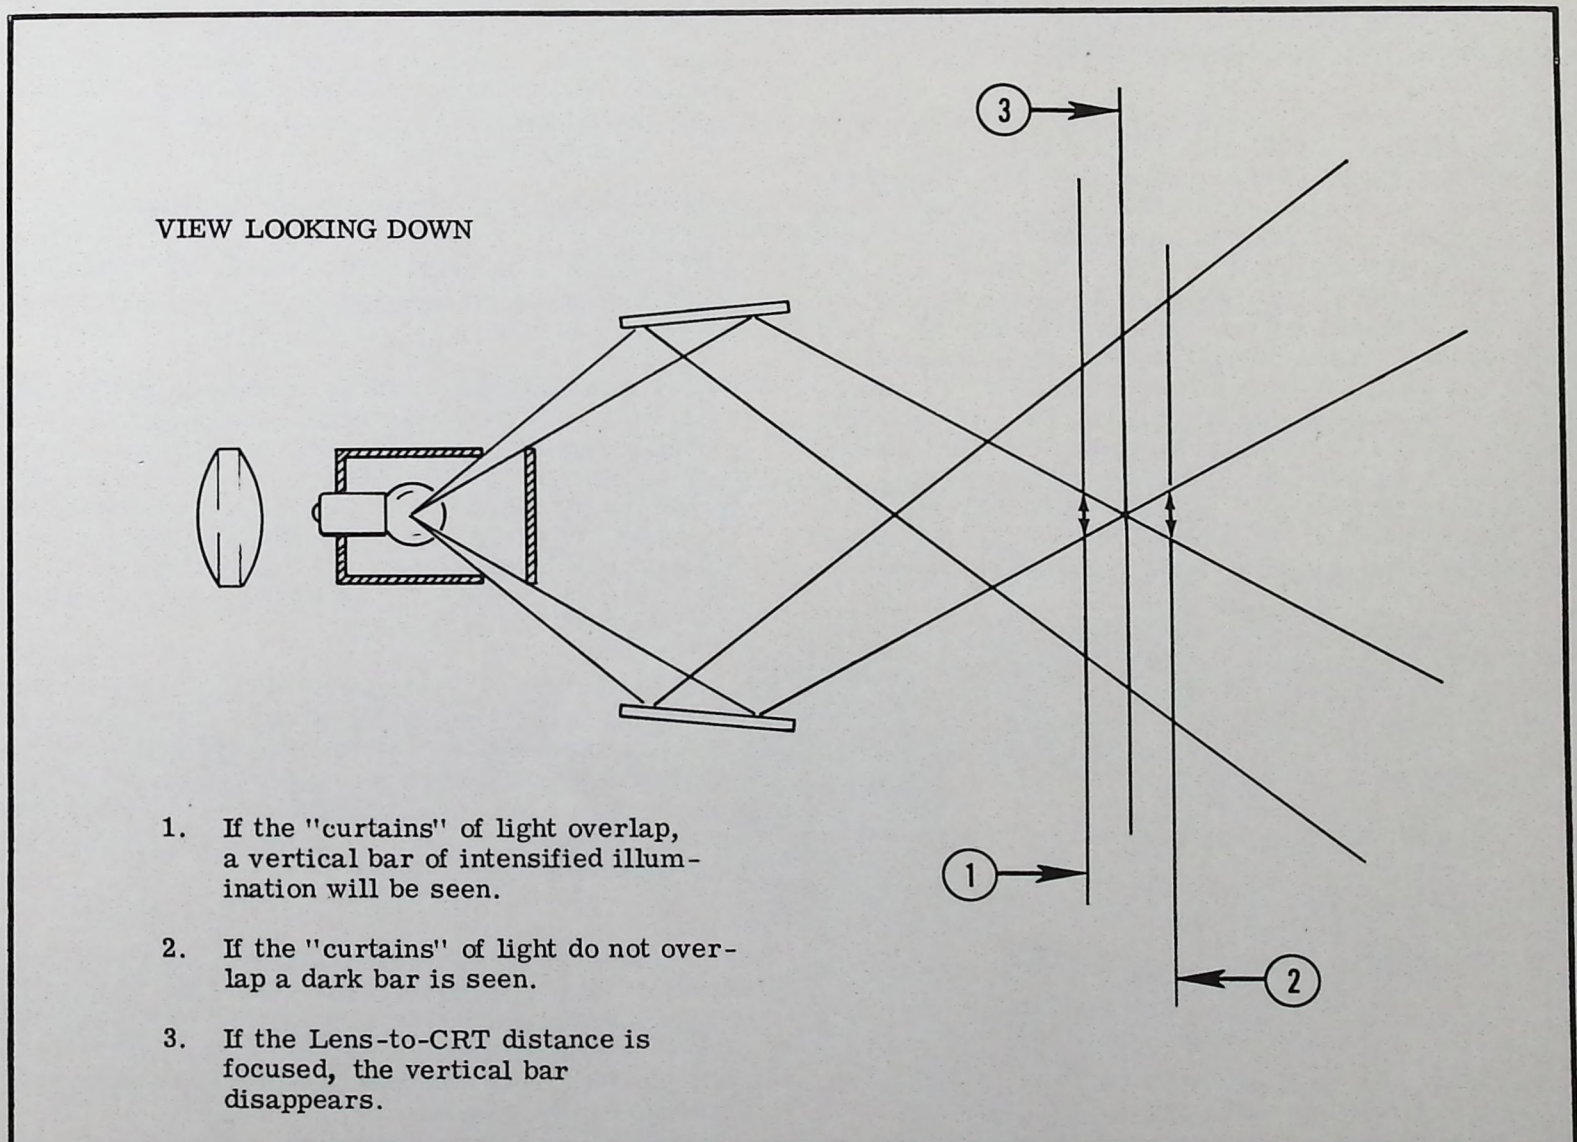

Figure 3-3. Resulting Conditions When Focusing the Model 198A
d. Observe vertical dark or bright bar on center of CRT phosphor face, through the viewing door. Rotate FOCUS control (clockwise or counterclockwise) to reduce width of the dark or bright vertical bar until it disappears. (See Figure 3-3.) The focus is now complete.